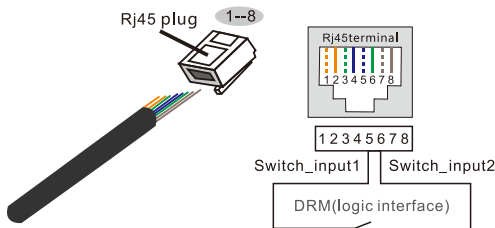

Figure 4.28 Strip the insulation layer and connect to RJ45 plug
2.Use the network wire stripper to strip the insulation layer of the communication cable. According to the standard line sequence of figure 4.28 connect the wire to the plug of RJ45, and then use a network cable crimping tool to make it tight.